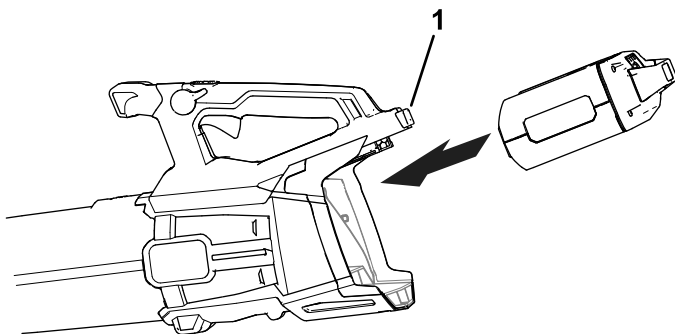

Figure 8
2. Align the cavity on the battery pack with the tongue in the handle housing (Figure 8).
3. Grasp the handle, and push the battery pack into the handle until the latch locks into place (Figure 8).